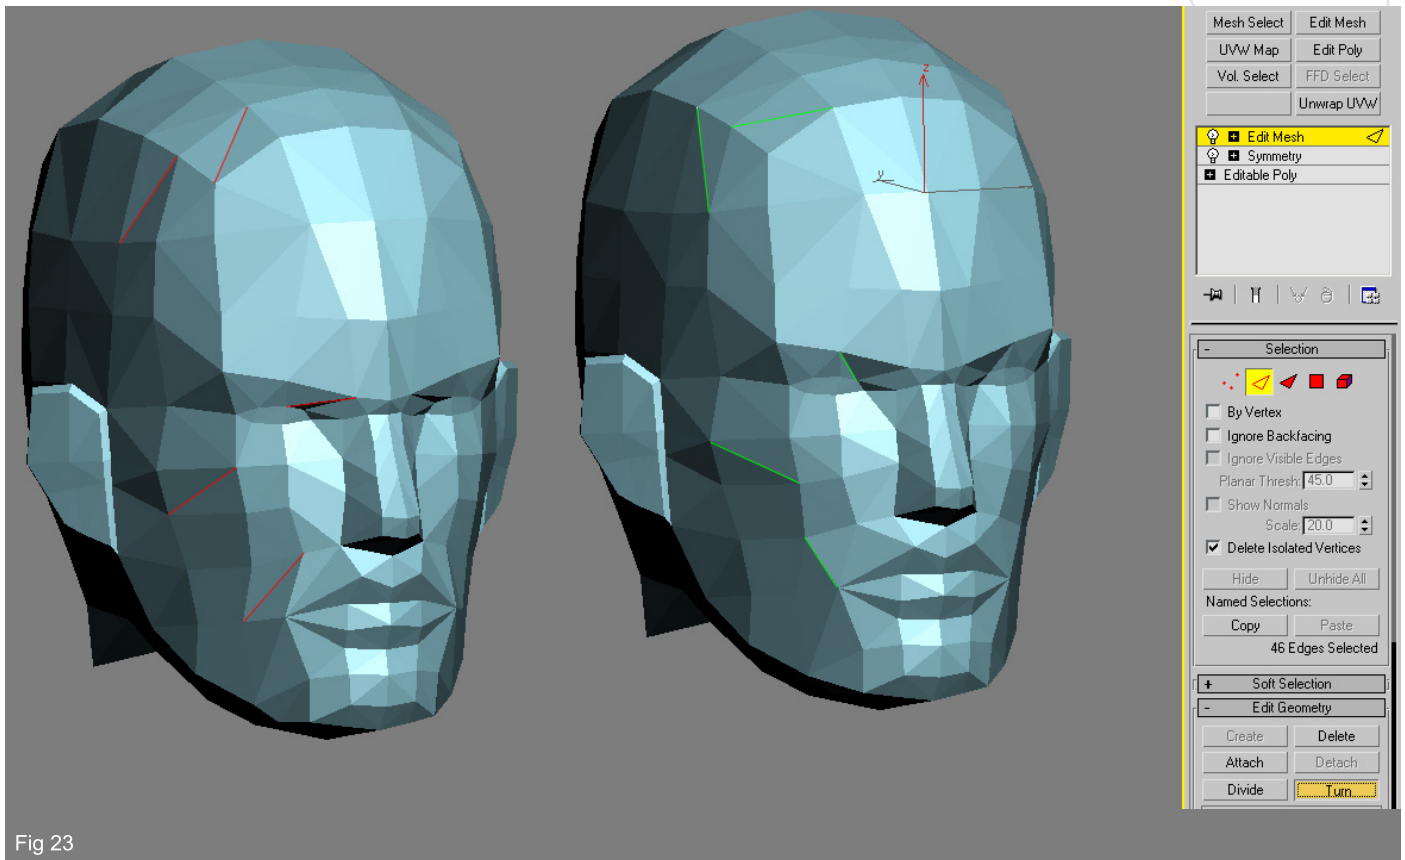

Fig 23
23. We are almost there now! Add an Edit Mesh modifier on top of the stack and then go into sub-object edge mode as seen on the right in Fig23. Select "Turn" and then start to swap the direction in which some edges traverse certain polygons by clicking on them. You can see in the image where edges in red have been turned to follow a more suitable line (shown in green on the right). In this way we can create better contours across our mesh and make sure the numerous planes read more accurately too.